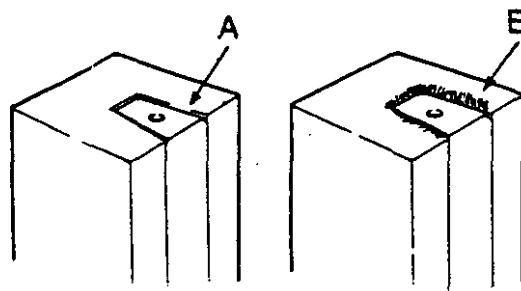

Figure 8. CUTTING PACKING
6. Remove any loose fibres with a very sharp knife. See Figure 8.